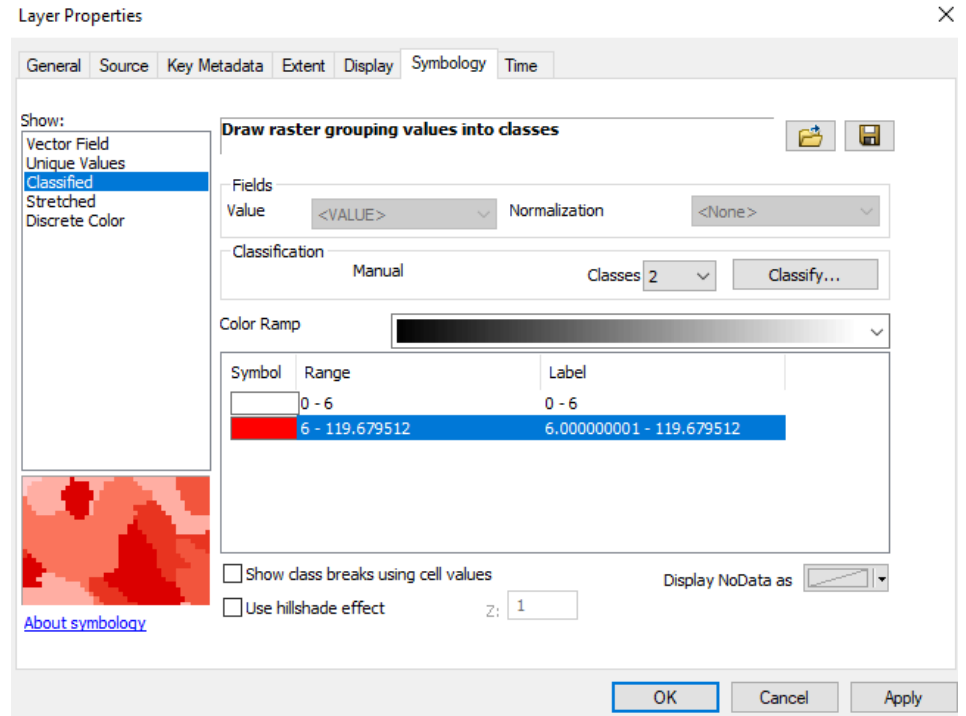

Figure 5. Slope Layer Properties
- Right click on this layer and select properties. Open the Symbology tab (Figure 5). By default, the Classified option should be selected in the left-hand box. If it's not, select Classified.
- Click Ok to return to the Properties box. There should now be 2 boxes showing with a range of 0-6 and 6-the highest slope value you have (Figure 5). Change the color of the class 0-6 to show no color. Select OK.